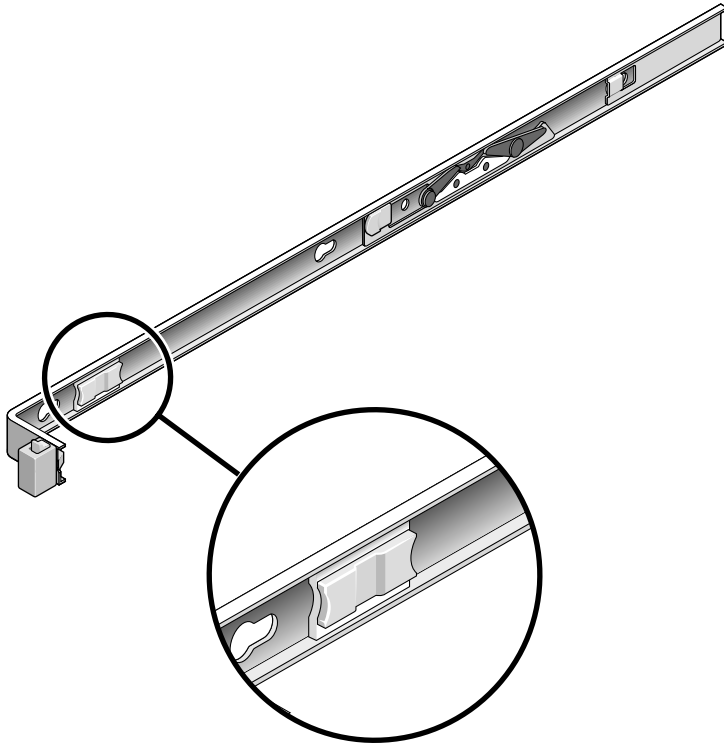

FIGURE 5-31 Release Levers
- 1. Release the slide rails from the fully extended position by pushing the release levers on the side of each rail (FIGURE 5-31).**